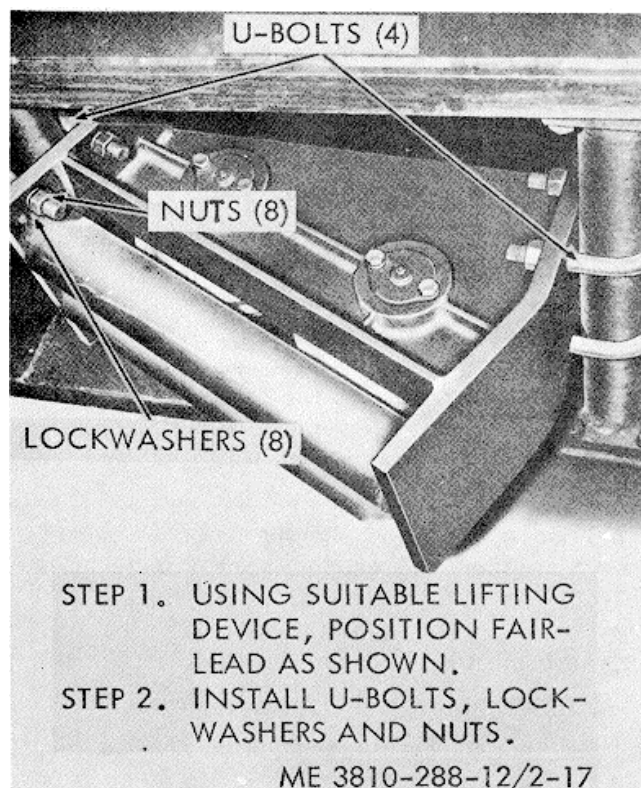

Figure 2-17. Fairlead, removal and replacement
(1) Install the crane boom, backstops, and boom hoist cable as described in paragraph 2-5.
(2) Install the fairlead (fig. 2-17).
(1) Lower the dragline bucket onto wood blocking in the desired location.
(2) Remove the cable wedges from the three-way socket and the deadend socket on the bucket arch. Unreeve the bucket dump cable from the dump sheave.
(3) Pull the hoist and drag cables free of the drag bucket, and unspool the cables from the front and rear drums.
(4) Remove the cable wedges from both drums, and free the hoist and draglines. Pull the cable's free of the drums and the boom point sheaves.
(5) Lay the hoist, drag, and bucket dump cables straight on the ground. Roll the cables into coils and secure them with wire. Label the cables for future use.
(6) Remove the fairlead (fig. 2-17).
(7) Remove the boom hoist cable and boom (para 2-5).